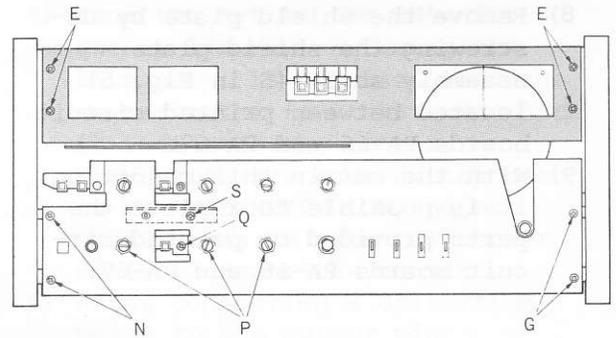

Fig. 5
- 1) Disassemble the aluminum inlay of the tuner section by removing the four screws indicated as E in Fig. 5.
- 3) Remove the two front-chassis-fixing screws (G of Fig. 5) of the tuner section.
- 2) Remove the two front chassis fixing screws (N in Fig. 5) of the preamplifier section.
- 3) Remove the three volume fixing nuts (P of Fig. 5) of the front chassis section.
- 4) Take off the switch assembly screw (Q of Fig. 5) of the front chassis section.
- 8) Remove the shield plate by unscrewing the shield plate assembly screw (S in Fig. 5) located between printed circuit boards PA-66 and PA-67.